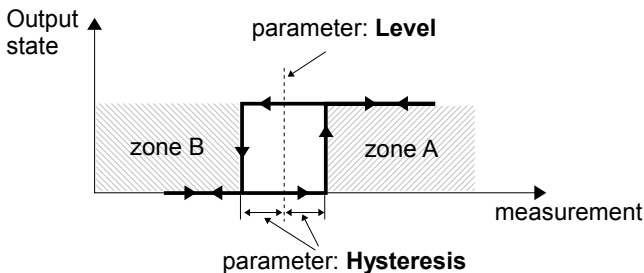
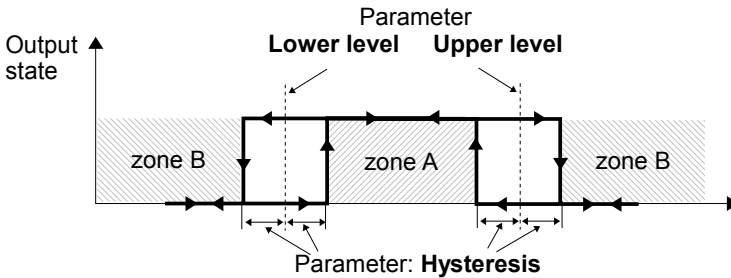

Fig. 7.69. One threshold control of the relay outputs
Fig. 7.70. Two threshold control of the relay outputs
- **Mode** - this parameter allows the user to select the method of operation of the output, **Mode** parameter has options (see Fig. 7.69 and Fig. 7.70):
Levels parameter block (see Fig. 7.69, Fig. 7.70 and Fig. 7.71)